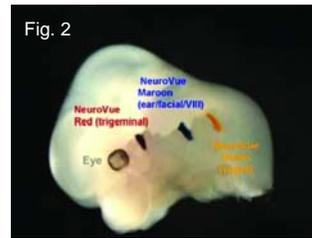
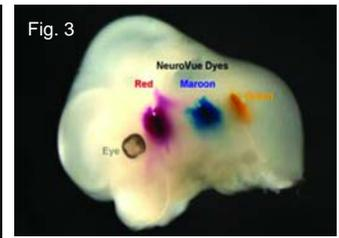

Fig. 2
Fig. 3
- Initiate labeling by inserting NeuroVue® micro-strip(s) (Figure 1) into nerve tract(s) to be traced (Figure 2). The highly lipophilic NeuroVue® dyes transfer from the micro-strip into nerve cell membranes and diffuse along the lipid bilayer in both directions from the insertion site (anterograde and retrograde labeling).
- Monitor the progress of dye diffusion using light microscopy and/or fluorescence microscopy. (Figure 3)
Figure 2: Placement of NeuroVue® micro-strips for multicolor neurotracing. Lateral view of murine head (embryonic day 12.5); with micro-strips placed to obtain central projections of NeuroVue® Red labeled trigeminal nerve, NeuroVue® Maroon labeled facial nerve and NeuroVue® green labeled glossopharyngeal nerve. The eye is visible as a brown spot at left (anterior). Magnification ~25X. NeuroVue® Jade is currently recommended for such studies because it can be visualized over substantially longer distances than NeuroVue® Green.
Figure 3: Monitoring diffusion distance using NeuroVue® dye absorbance. After incubation for 36 h at 37°C, diffusion in all directions from the point of micro-strip insertion is readily visualized using a dissecting microscope (same specimen as Figure 2) Magnification ~25X